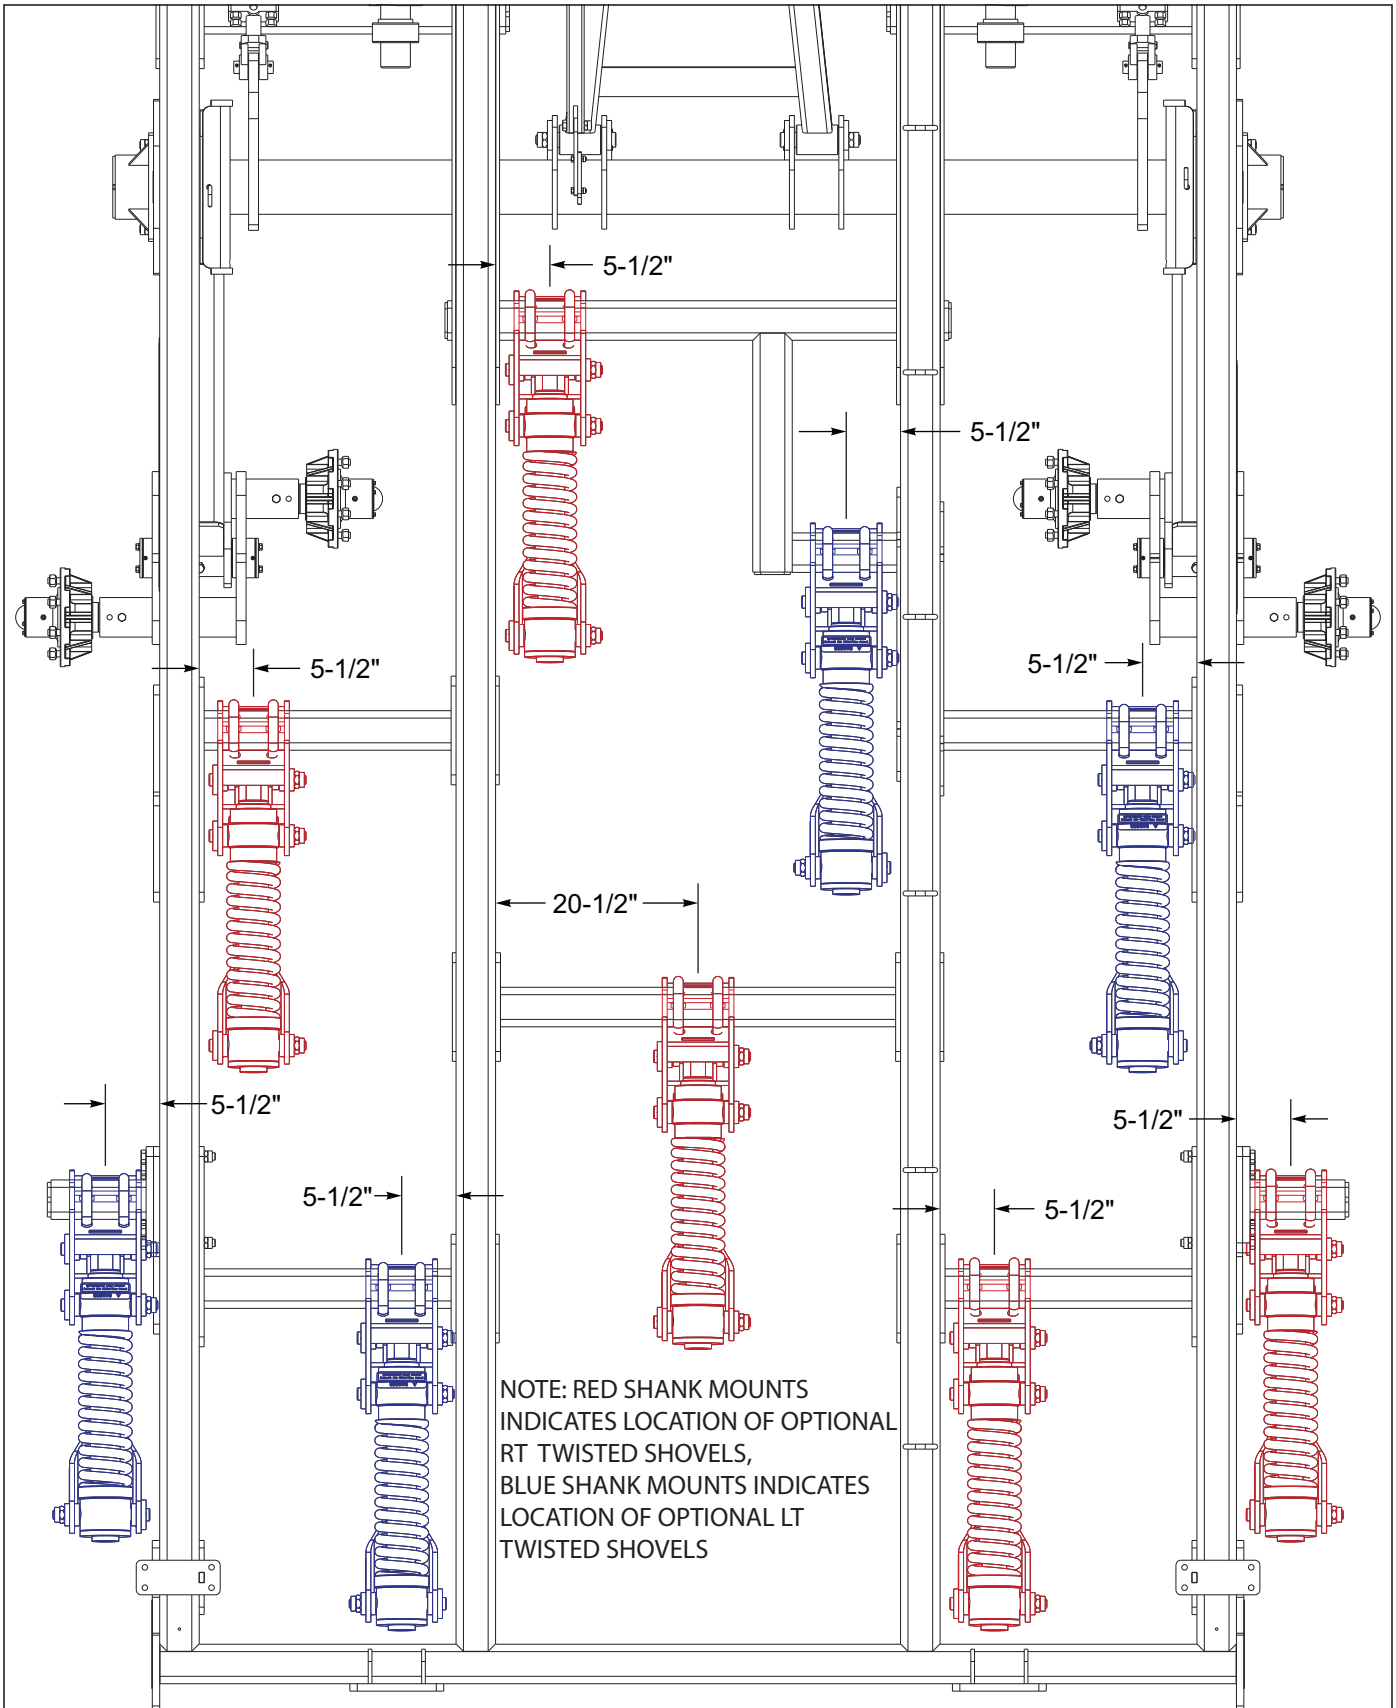
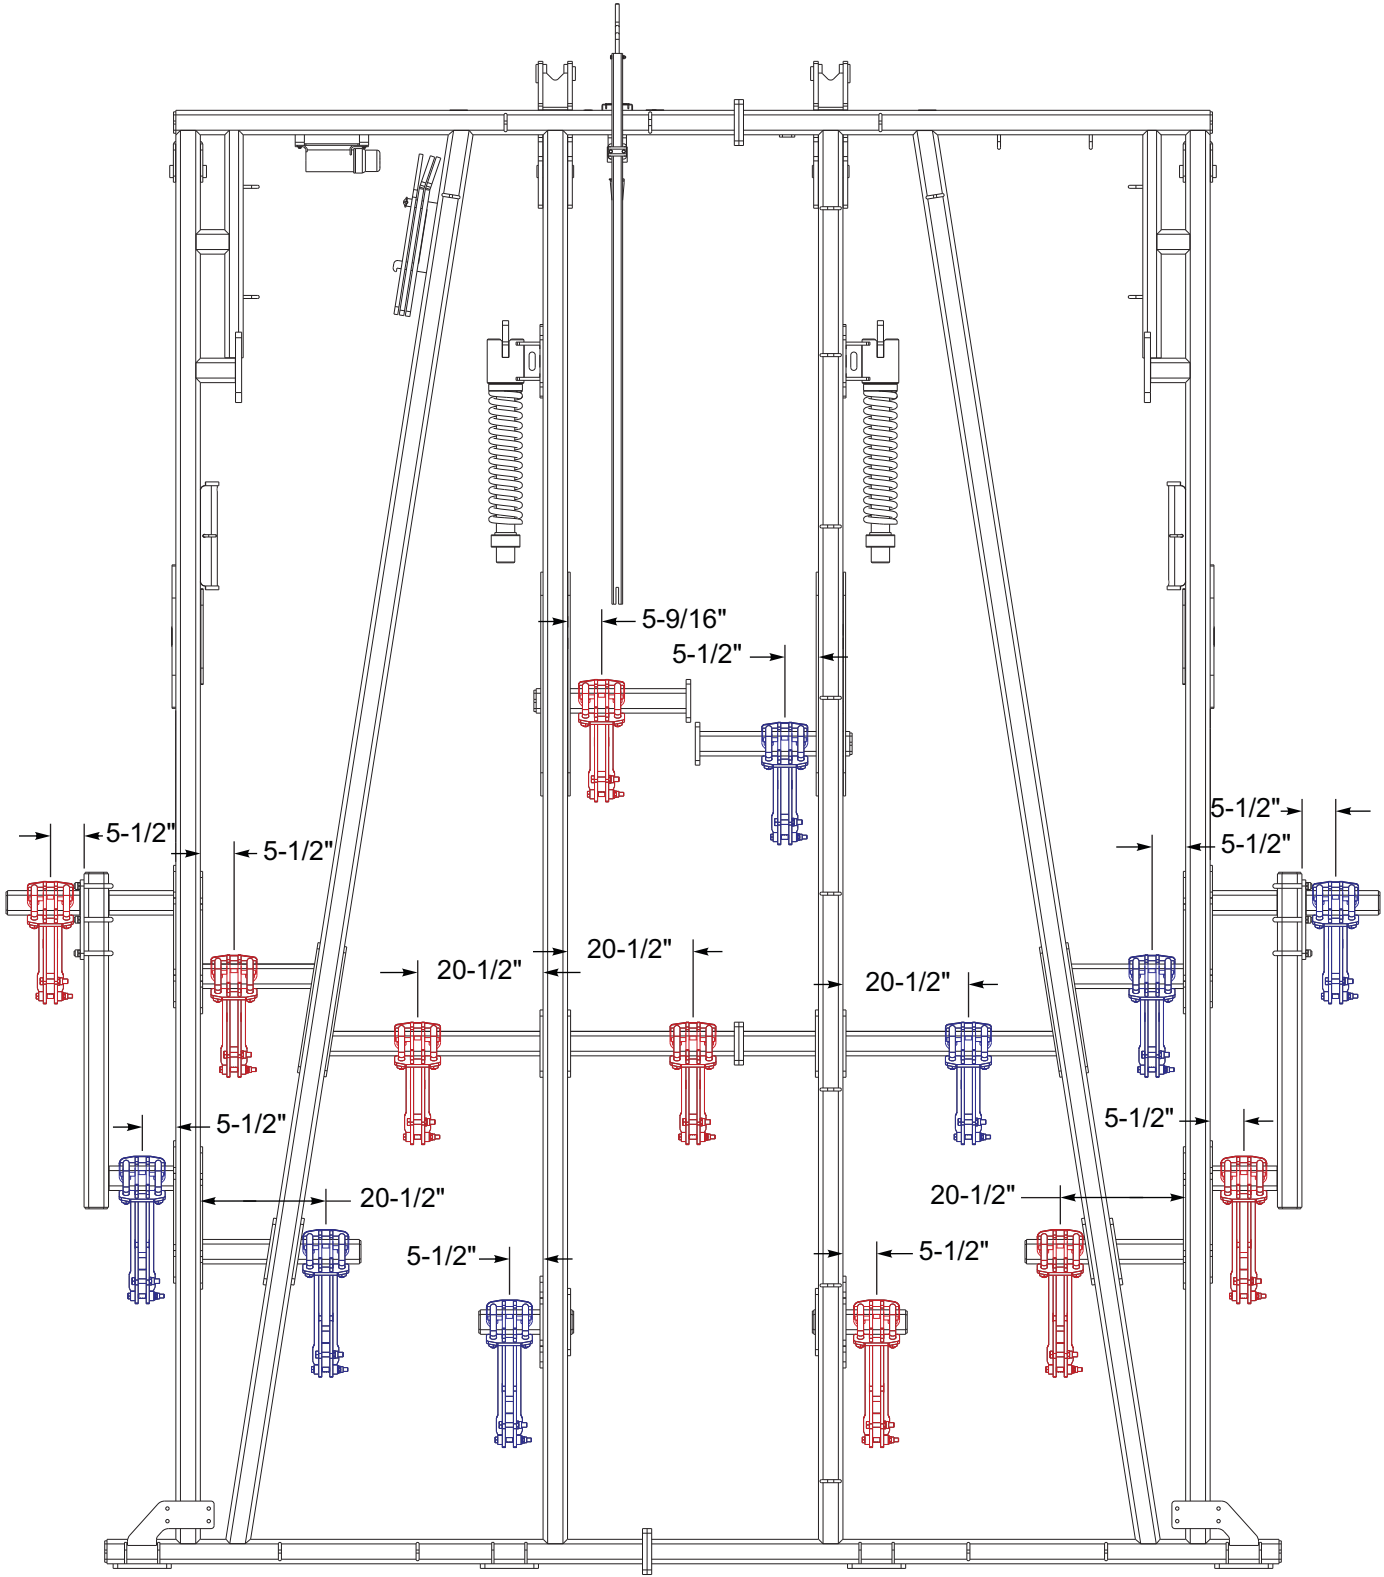
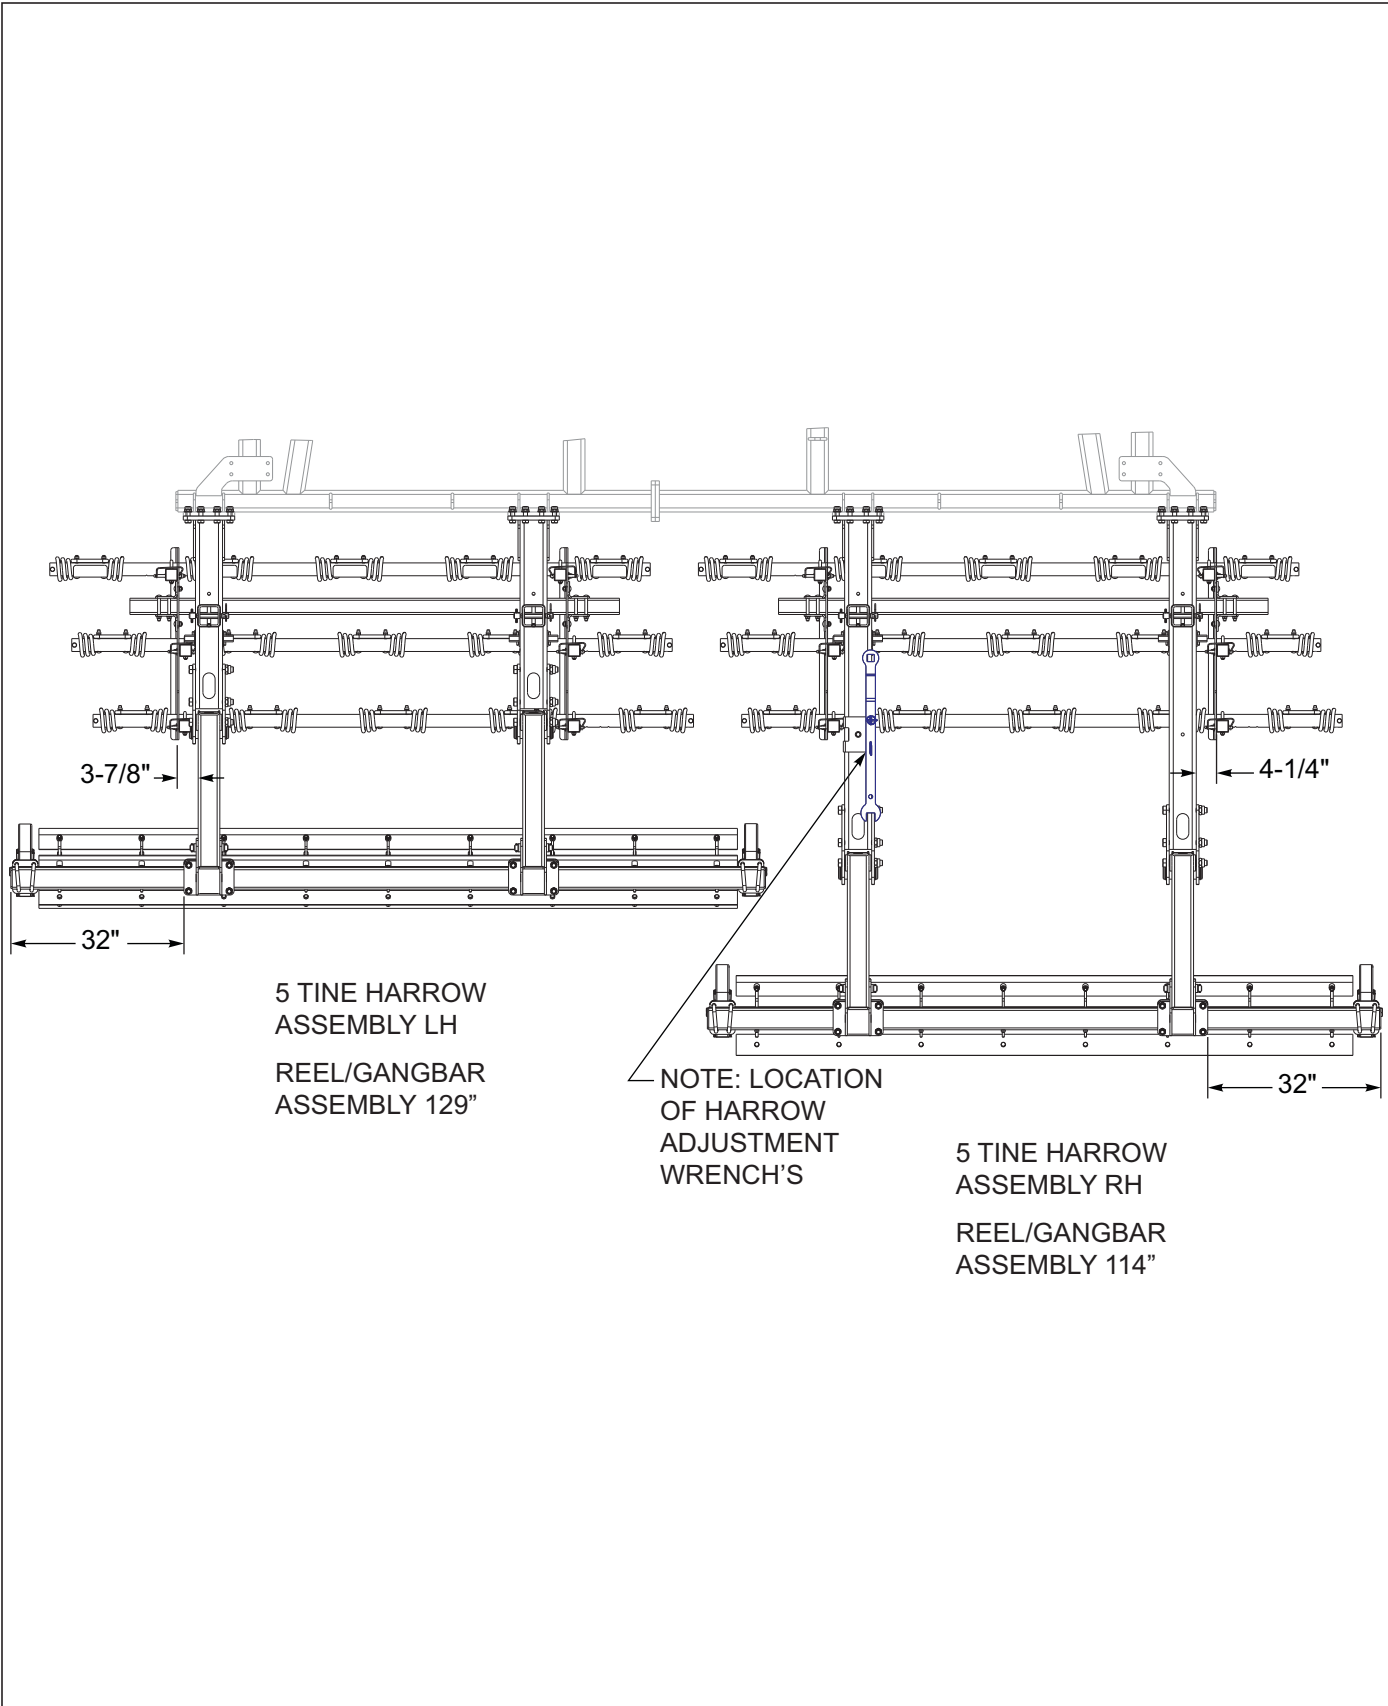

Figure 2-4: Auto Reset Shank Placement 2112-09
Figure 2-9: Rigid Shank Placement 2112-15
Figure 2-13: Std 3BCT/Chopper Placement 2112-15
2. Remove any shank assemblies or extensions that may have been turned around or mounted inside the frame for shipping, and reposition, See Figures 2-4 through See Figures 2-9 in "STANDARD SPECIFICATION" section for shank placement.
3. Remove any shank assemblies or extensions that may have been turned around or mounted inside the frame for shipping, and reposition, See Figures 2-4 through See Figures 2-13 in "STANDARD SPECIFICATION" section for shank placement.
3. Remove any shank assemblies or extensions that may have been turned around or mounted inside the frame for shipping, and reposition, *See Figures 2-4 through See Figures 2-13* in "STANDARD SPECIFICATION" section for shank placement.